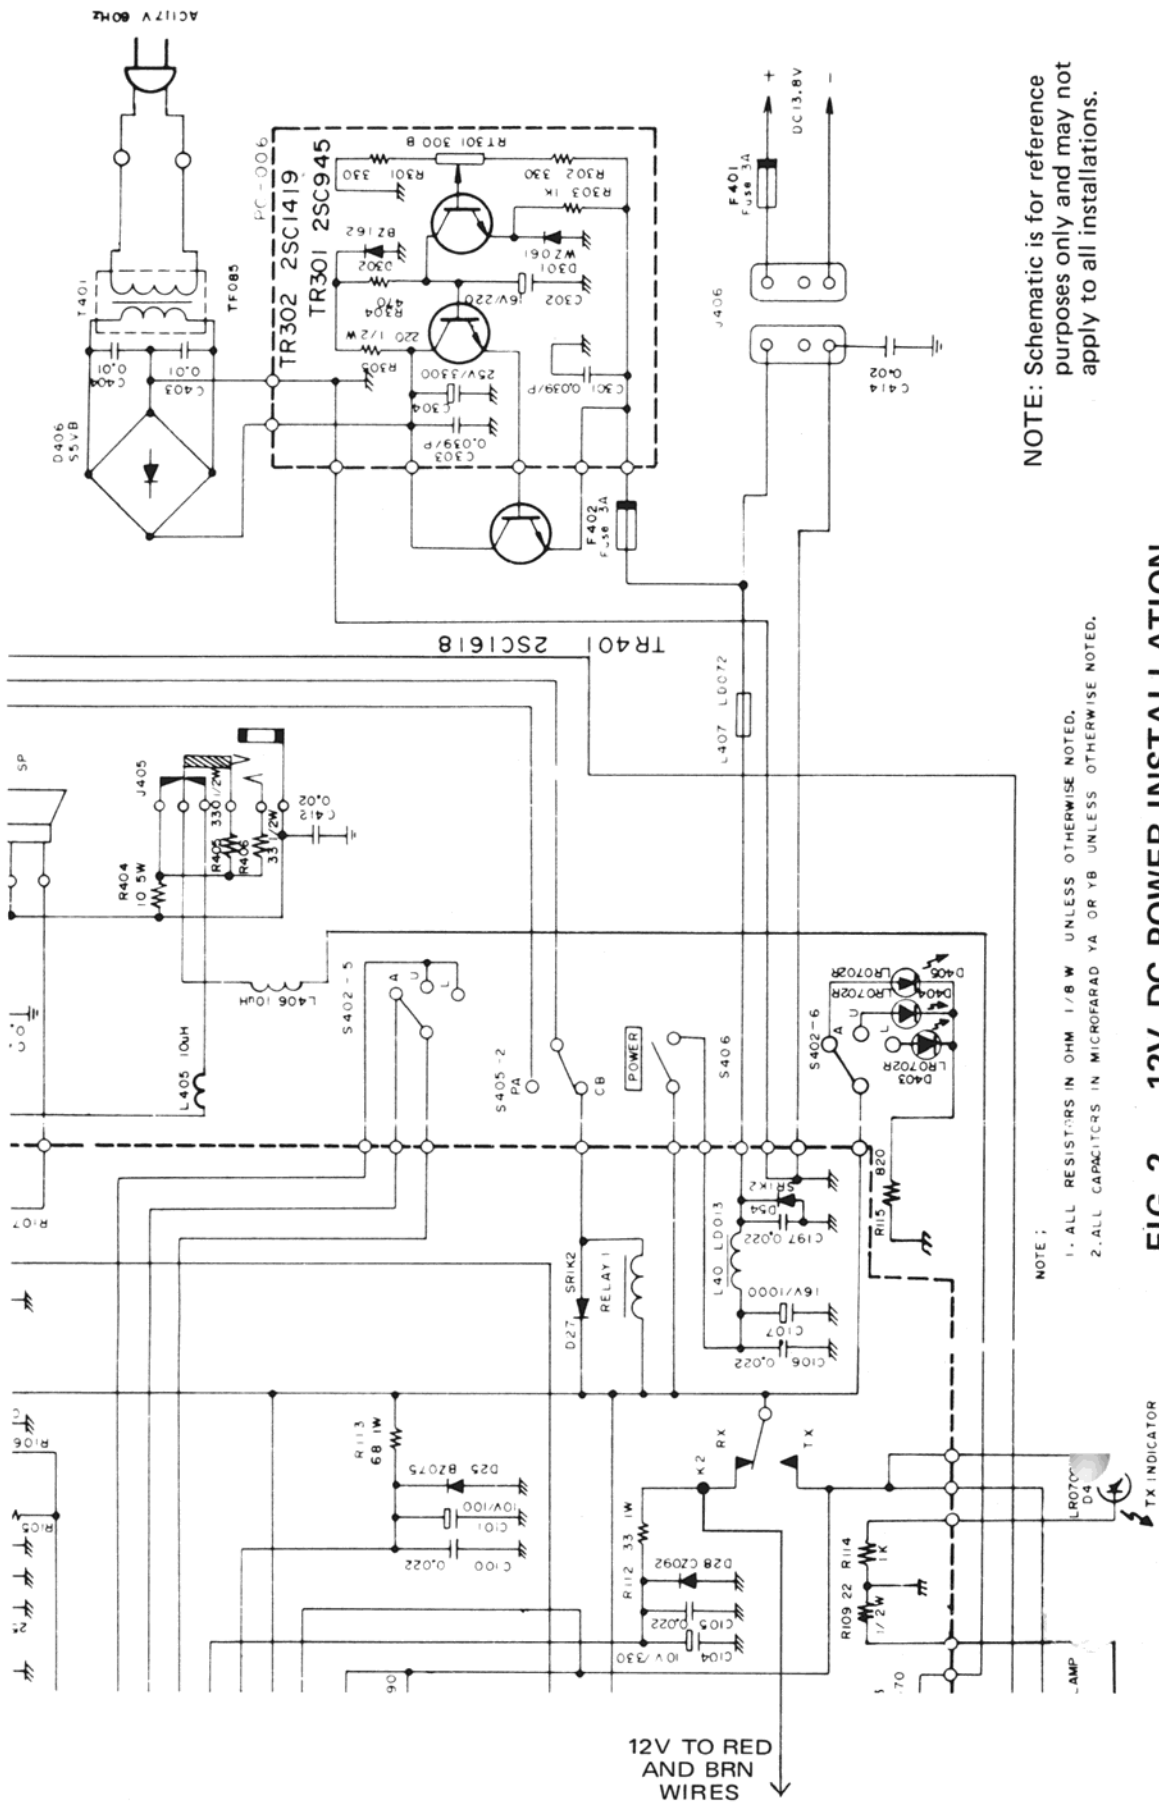

FIG. 2 — 12V DC POWER INSTALLATION
9. Solder the red and brown wire to the 12V power line of the receiver. (See Figure 2). If additional wire length is required, install a 20-22 GA insulated wire for additional length.